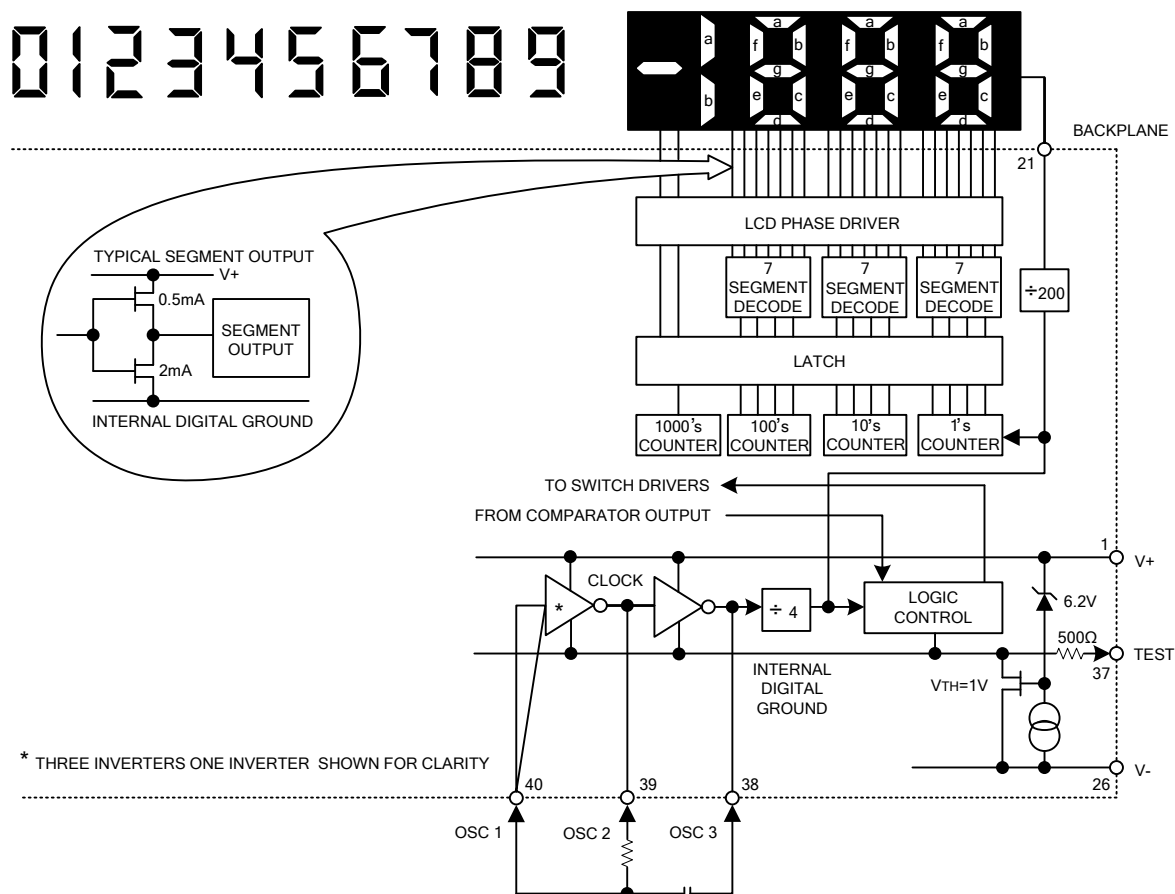

Fig.5 Digital Section
Fig.5 show the digital section for the UTC **7106**, respectively. In the UTC **7106**, an internal digital ground is generated from a 6V Zener diode and a large P-Channel source follower. This supply is made stiff to absorb the relative large capacitive currents when the back plane(BP) voltage is switched. The BP frequency is the clock frequency divided by 800. For three readings/sec, this is a 60Hz square wave with a nominal amplitude of 5V. The segments are driven at the same frequency and amplitude and are in phase with BP when OFF, but out of phase when ON. In all cases negligible DC voltage exists across the segments.